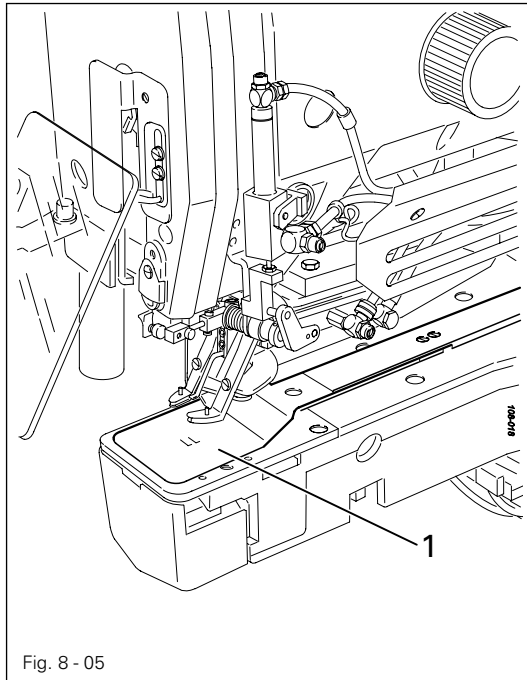

Fig. 8 - 05
- When entering the code number this key corresponds to the figure 8.
- Fit the reel stand as shown in Fig. 8 - 04.